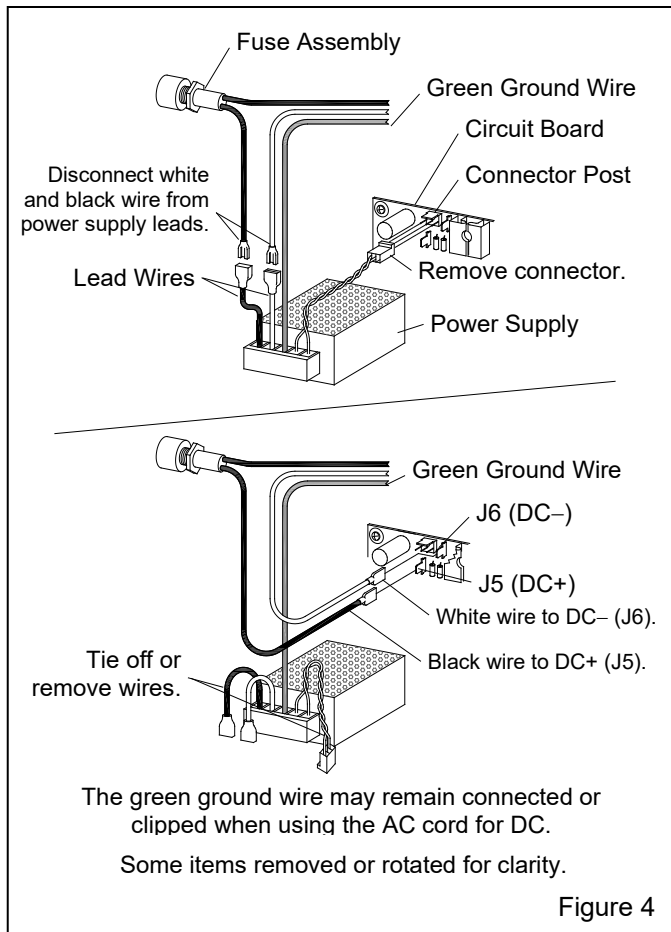

Figure 4
The AC power cord provided with the monitor may be used, using *black* as the positive. A user supplied DC, 2-wire cord may be used, using red as positive. If a new 12-volt cord is used, splice the positive through the fuse and use the spade on the outlet of the fuse to connect to J5 DC positive post, as shown Figure 4.
**2.4.3.4** Remove the connector with *red* and *black* wires from the plug on the circuit board, as shown in Figure 4. If there is a chance the monitor will be converted back to AC power, tie the wires out of the way. If the monitor is to be permanently converted to 12 volts, pop off the clear terminal cover and remove the wires from the terminal.
**2.4.3.5** Disconnect the *white* and *black* wires from the power-supply lead wires at the connectors, as shown in Figure 4.
**2.4.3.6** Plug the *black* wire onto the J5 (DC +) post at the upper edge of the circuit board, as shown in Figure 4. Plug the *white* wire onto the J6 (DC-) post.